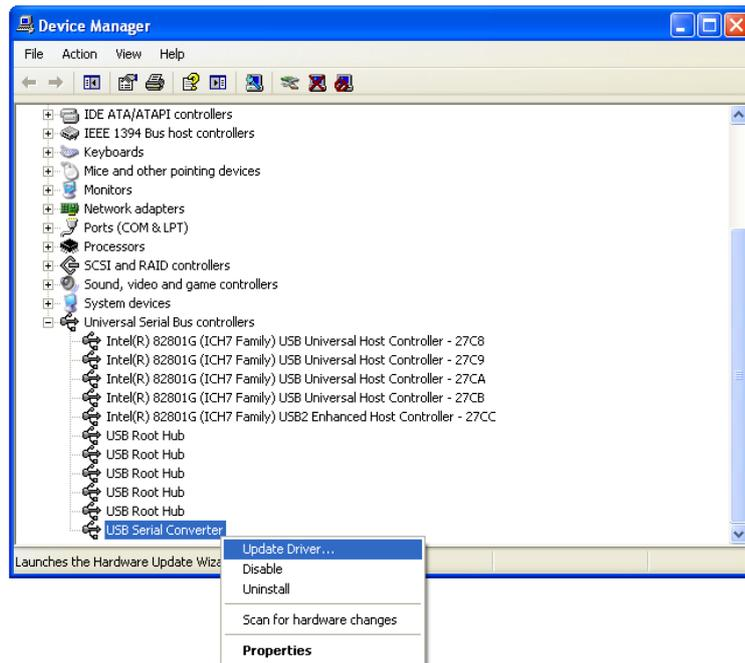

Fig. 45
- In the "Universal Serial Bus Controllers" submenu find the "USB Serial Converter" device. Right-click on this device and choose "Update Driver" (*Fig. 45*).